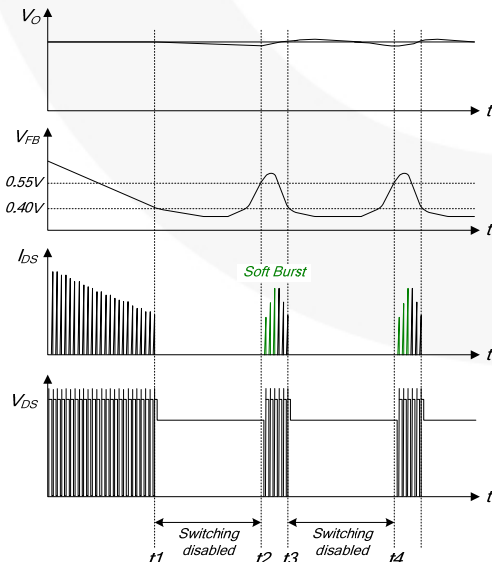

Figure 22. Burst-Mode Operation
5. Soft Burst-Mode Operation: To minimize power dissipation in Standby Mode, the FSL126MRT enters Burst-Mode operation. As the load decreases, the feedback voltage decreases. The device automatically enters Burst Mode when the feedback voltage drops below V_{BURL} (400mV), as shown in Figure 22. At this point, switching stops and the output voltages start to drop at a rate dependent on standby current load. This causes the feedback voltage to rise. Once it passes V_{BURH} (550mV), switching resumes. The feedback voltage then falls and the process repeats. Burst Mode alternately enables and disables switching of the SenseFET, reducing switching loss in Standby Mode.